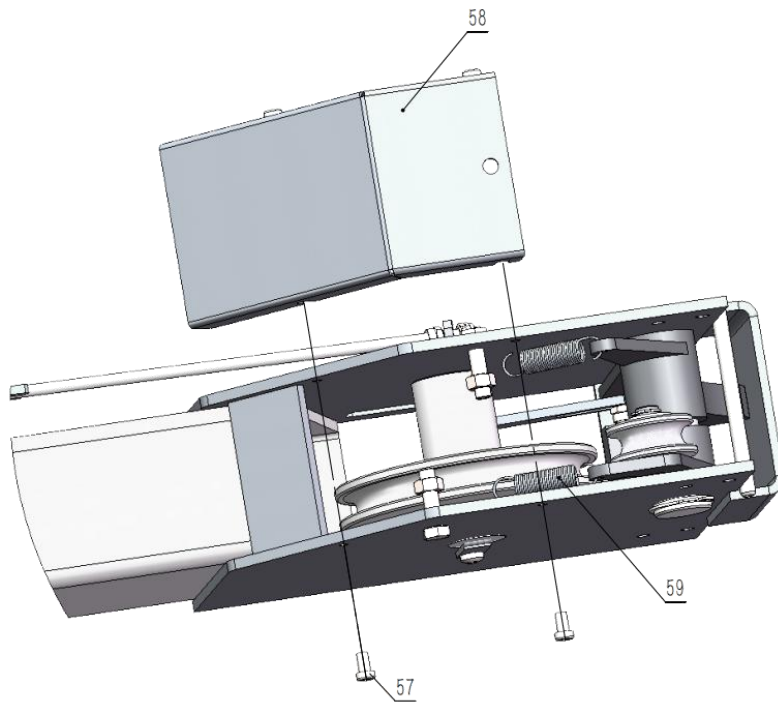

Fig. 28
N. Install spring and beam safety cover of cross beam (See Fig. 28).